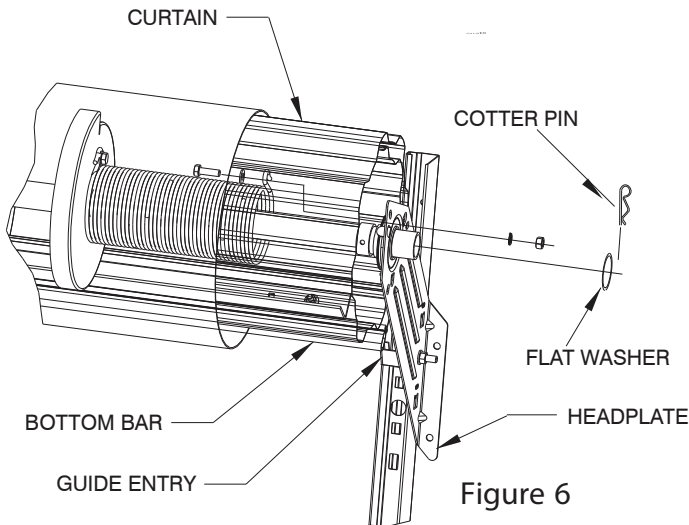

Figure 6
3. Slip the guide and headplate assemblies onto each end of the shaft and secure with cotter pin and flat washer. See Figure 6.
5. Rotate the curtain so the bottom bar is located above the guide entry line (see Figure 6.) Once this is done, rotate the curtain slightly as needed to line up the spring bolt ear with the nearest spring bolt hole in the headplate (Counterclockwise for a right hand spring and clockwise for a left hand spring when looking from the spring end). IF THE DOOR HAS A SINGLE SPRING: Rotate the curtain 1/3 of a turn clockwise to line up the spring bolt ear with the next available spring bolt hole in the headplate. Bolt the spring to the headplate per Figure 6. IF THE DOOR HAS DOUBLE SPRINGS: Bolt the springs to the headplate per Figure 6. (NOTE: Bolt both springs to same headplate location)